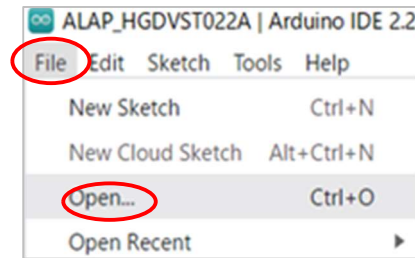

Fig.3
2. In menu [file]→[Open] and select (ALAP\_HGDVST022A.ino) in list (Fig.3).